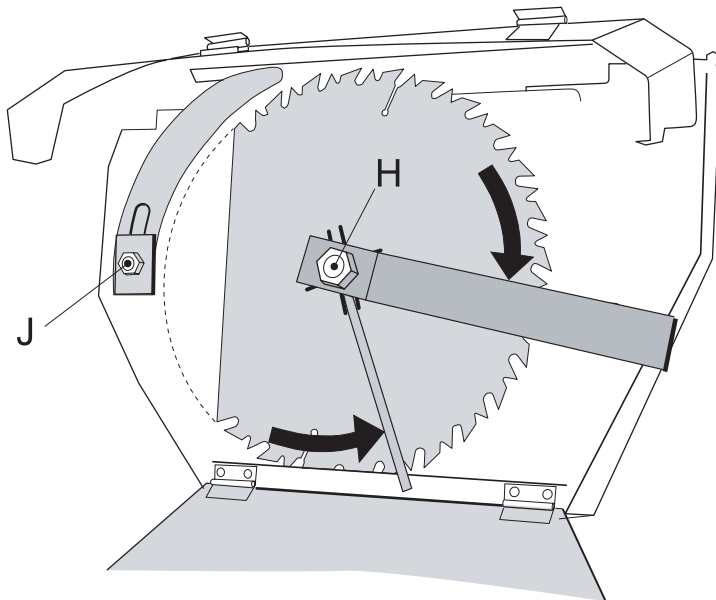

Fig. 18
- Use tools to open sawblade cover. Restrain upper cover using chain under sawtable. Use tools supplied with saw to remove sawblade. Arbor nut **H** has a left-hand thread and is unscrewed by turning clockwise. Use another tool to keep sawblade from rotating while removing arbor nut. Close cover when finished. *See Fig. 18.*
- The riving knife must always be fitted when the saw is being used. Adjust riving knife as illustrated in *Fig. 18 and 19.*